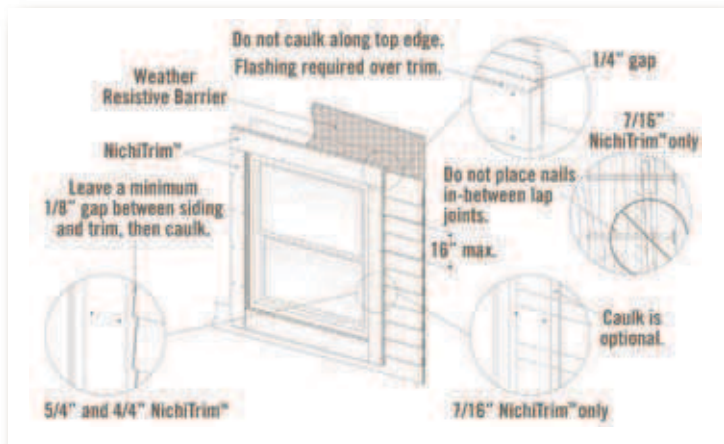

Fig. 10.2
## Trimming Windows, Doors & Openings (Fig. 10.2)
- Install door and window trim in the "cap-over" method. Ensure the top trim board spans over the top of the vertical or side trim pieces. (Fig. 10.2)